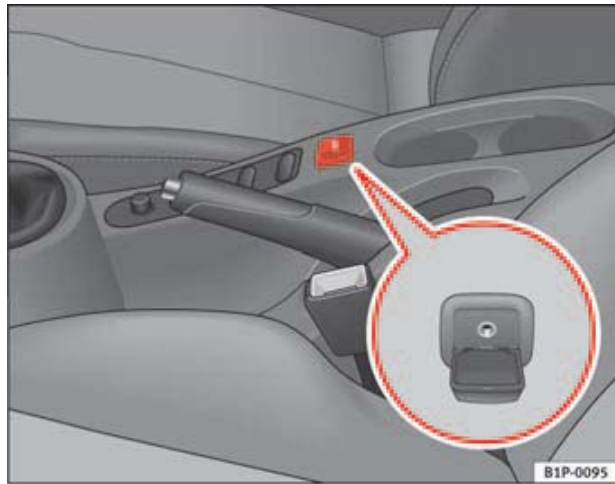

Fig. 101 Auxiliary audio connection
- Lift the AUX cover ⇒ fig. 101.